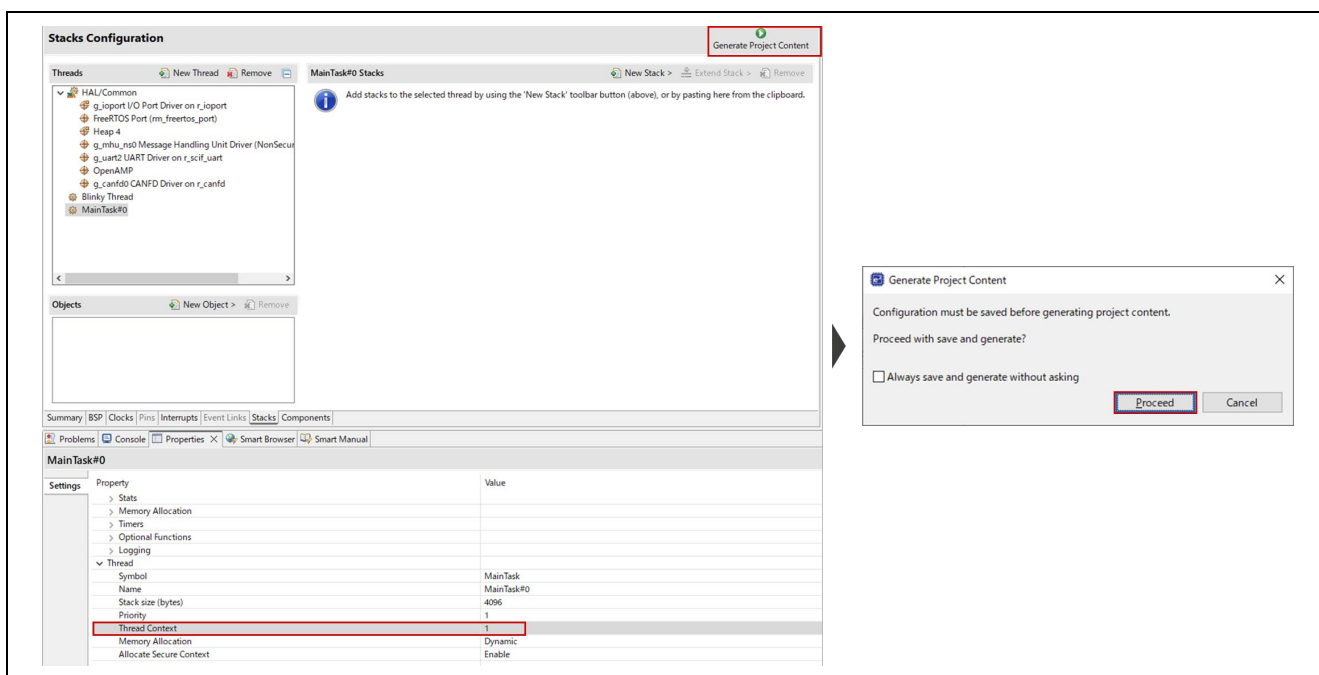

Figure 4-4. RPMsg Channel Setting
1. Choose **rzv2l\_cm33\_rpmsg\_linux-rtos\_demo Debug\_Flat** or **rzv2l\_cm33\_rpmsg\_linux-rtos\_demo Release\_Flat** from the drop-down list indicated by a red arrow in Figure 4-4.